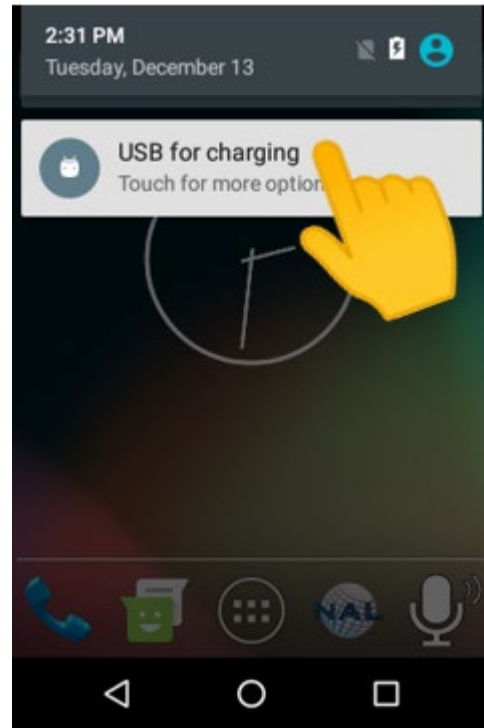

Figure 78: Tap USB for charging
4. Tap **USB for charging** (see **Figure 78**), and select File transfers (see **Figure 79**).